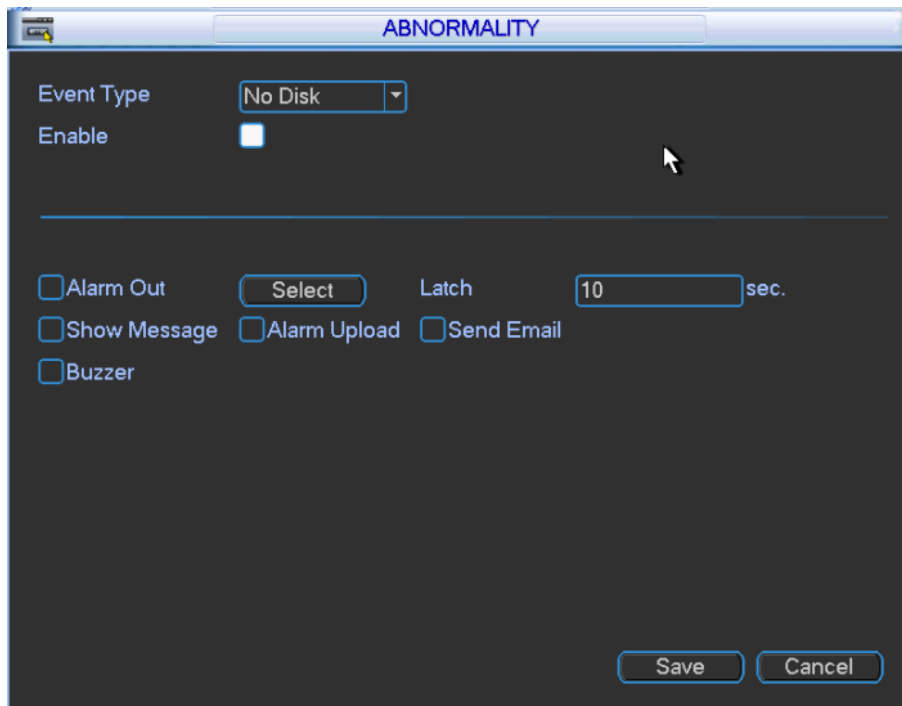

Figure 3-70
Step 1 In main menu, select "Advance > Abnormality". The system displays "Abnormality" interface, as shown in Figure 3-70.